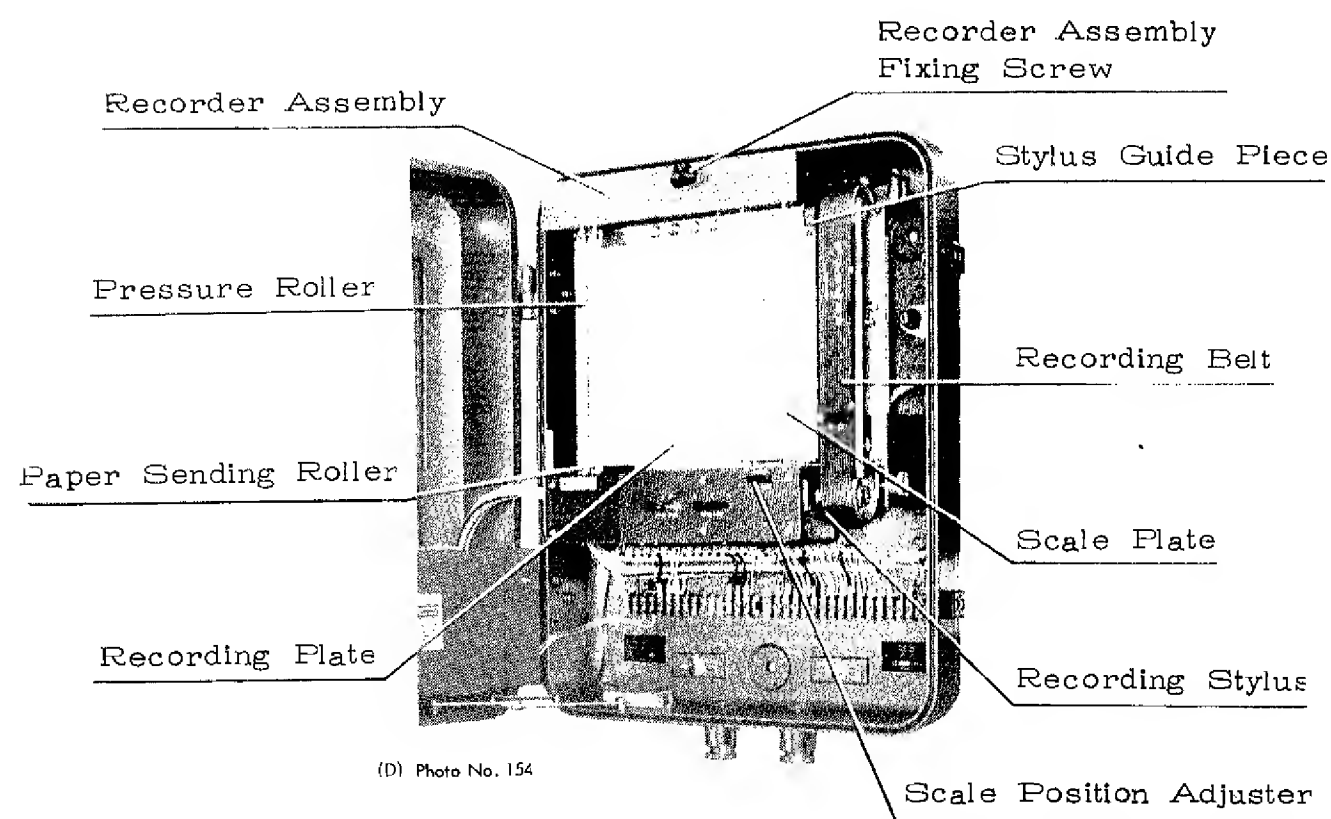

Fig.2-3 Recorder with Cabinet Door opened
2. Turn the recording belt in the normal direction by hand so that the recording stylus may be off the recording paper. See Fig.2-3.
3. Remove the scale plate. See Fig.2-3.
4. Release the pressure roller by pulling it up. See Fig.2-3.
8. Place the paper between the stylus guide piece and the recording plate (ref. Fig.2-3), also between the paper sending roller and the pressure roller.